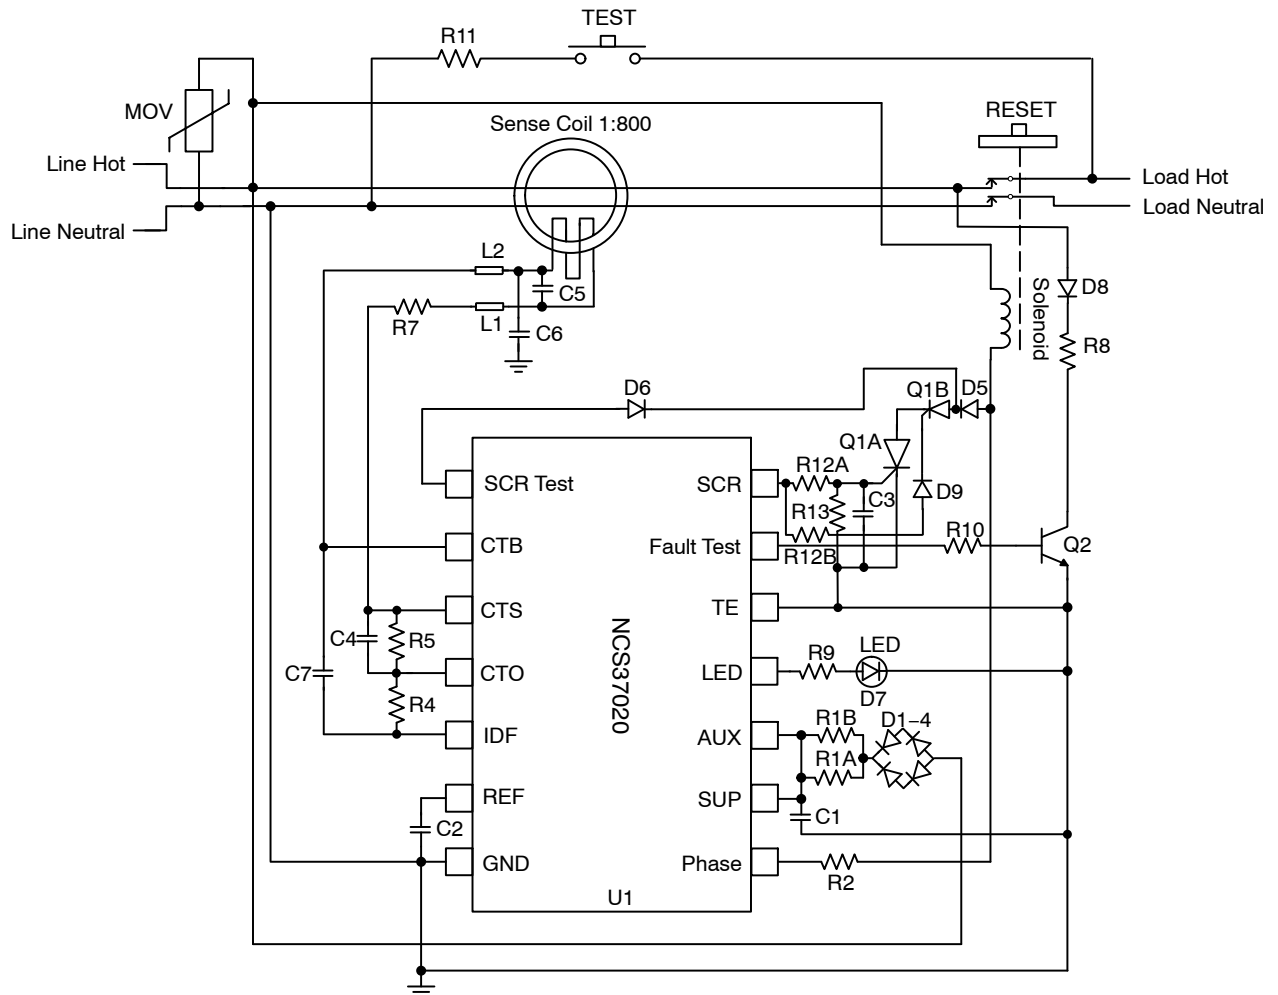
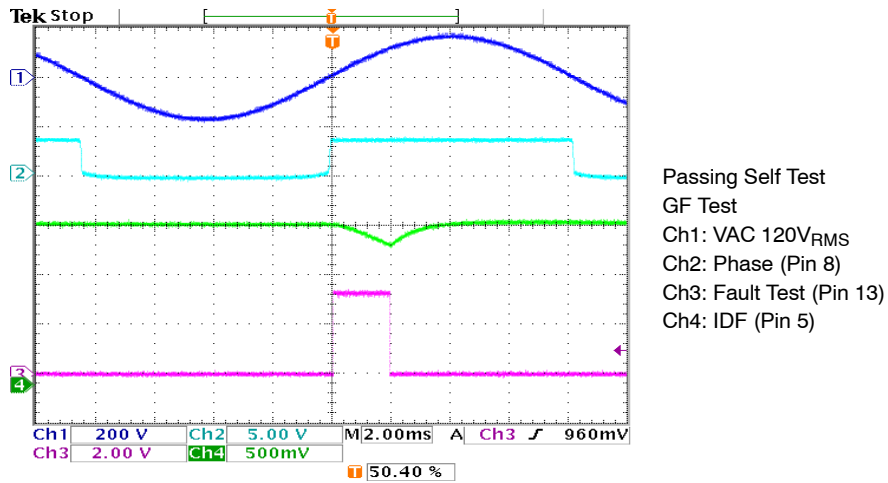
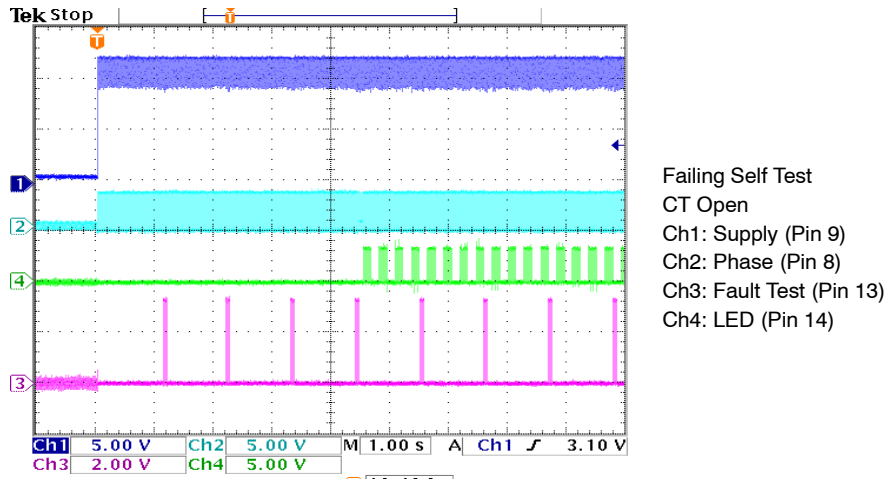
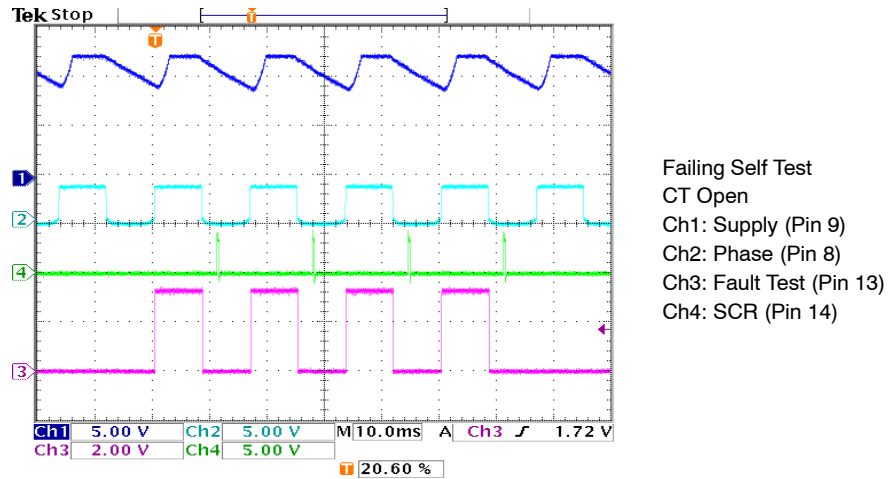

Figure 2. ALCI Application Diagram\*
Figure 4. Passing Self Test – GF
Figure 6. Failing Self Test – CT Open
Figure 7. Failing Self Test – CT Open
**Table 4. OPERATING RANGES** (Unless otherwise noted, ISUP = 3 mA, Phase input = 60 Hz, Refer to Figure 2)
**Functional Description (refer to application circuit, Figure 2)**
The internal shunt regulator clamps the SUP pin voltage at 12 volts. This provides the bias voltage for the analog and digital internal circuitry via two 3.3 V linear regulators. The NCS37020 controller can be biased full wave or half wave. Figure 2 shows a half wave bias application. Half wave bias allows for lower wattage bias resistors (R1A and R1B) and less redundant bias diodes. The D1–4 diodes are biased so that only during the positive half cycle the capacitor C1 will be charged to 12 volts. During the negative half cycle, C1 will supply the bias current for the NCS37020. To minimize the NCS37020 bias current during the negative half cycle, the SCR and LED outputs will only be enabled during the positive half cycle. The D1–4 diodes and R1A–R1B resistors include redundant components to pass the UL943B standard.
The first self-test (ST) cycle will occur at one second and thereafter every 12 minutes. During the ST cycle, the Fault Test pin will be enabled during the positive half cycle and the CT current (set at 12 mA, R8) will be verified. During the next negative half cycle, the SCR’s anode voltage will be pre-biased by the SCR Test pin to 3.3 volts. The SCR will then be enabled and the SCR’s anode voltage will be monitored by the SCR Test pin. If the anode voltage goes below 2.1 volts, the SCR will be disabled after a 400 μs verification check and the ST logic will register a passing ST cycle. Figure 2 shows two SCRs in series. A redundant SCR is required during the SCR anode to cathode short test to prevent the solenoid from burn out damage. The SCR self-test cycle will fail if either SCR Q1A or Q1B are open. If either Q1A or Q1B are shorted (anode to cathode) the ST cycle will pass, however, the GF function will also function correctly. The next ST cycle will occur in 12 minutes. Note that when the SCR is enabled, the blocking diode D5 will prevent the solenoid from being energized and opening the load contacts. If either the GF (ground fault) or SCR self-test cycles fail, these self-test cycles will be repeated for up to three more consecutive cycles. If any consecutive GF and SCR tests pass, the ST logic will register a passing self-test cycle. If all four ST consecutive cycles fail, a ST cycle will be repeated at 2, 3 and 4 seconds for a total of 16 self-test cycles. If all 16 ST cycles fail, a ST EOL fault will occur. The SCR will be enabled for four consecutive positive half cycles, then the LED will blink at 4 Hz. The LED will only be biased during the positive AC half wave cycle. The SCR will be enabled for one positive half cycle every 4.5 seconds. A self-test cycle will occur every second. If a self-test cycle passes, the ST EOL logic will be reset (power on reset state). If a ground fault is detected during a ST EOL state, the EOL logic will be reset. This allows for resetting the ST EOL state by pressing the manual test button when the load contacts are closed.
Figure 4 shows a passing self-test ground fault test. This test checks for the CT and bias circuitry. Channel 1 shows the VAC 120  $V_{RMS}$ , 60 Hz Line Voltage. Channel 2 shows the positive and negative phase half wave cycles. Channel 3 shows the Fault Test signal and channel 4 shows the IDF signal (CTO output). The self-test cycle starts in the positive half wave cycle. The Fault Test pin goes high and Q2 (Figure 2) is enabled. Enabling Q2 generates a GF signal via R8. The IDF signal is the CTO amplifier output which is a GF current to voltage signal per the equation on the previous page. When a 5 to 15 mA GF signal is detected, a “passing GF test” is recorded and the Fault Test signal is disabled.
After a passing self-test cycle per Figures 4 and 5, the next ST cycle will occur in 720 seconds.
Figure 6 shows a failing ST cycle for an open CT. Channel 1 shows the NCS37020 supply voltage. Channel 2 shows the phase pin. Channel 3 shows the Fault Test signal and channel 4 shows the LED (End of Life) signal. The first four consecutive ST cycles occur at about 1.1 seconds, then at 2.2, 3.3 and 4.4 seconds. After the 16th consecutive cycle failure, the SCR is enabled for four positive half cycles and then the LED is enabled.
Figure 7 also shows a failing ST cycle for an open CT. It is a zoom figure for the first four consecutive ST cycles. It shows the same waveforms as Figure 6 but channel 4 shows the SCR pin. Comparing Figure 7 with Figure 4, it can be observed that the Fault Test pin is enabled for the complete positive half wave cycle because no GF signal is detected by the NCS37020.